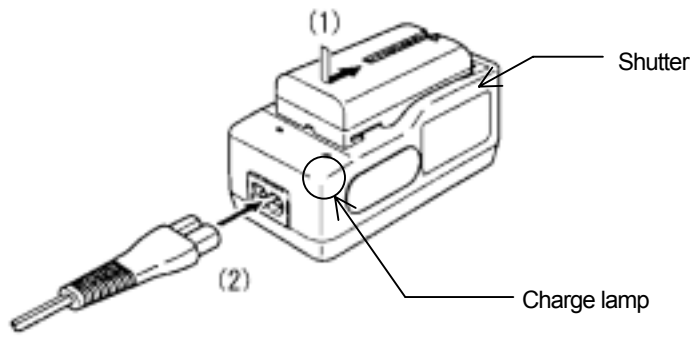

Figure 3-23 Battery Charger
(1) Procedure for using the charger
a) Mount the battery in the charger (see Fig. 3-23-(1))
(See Figure 3-23-(2).)